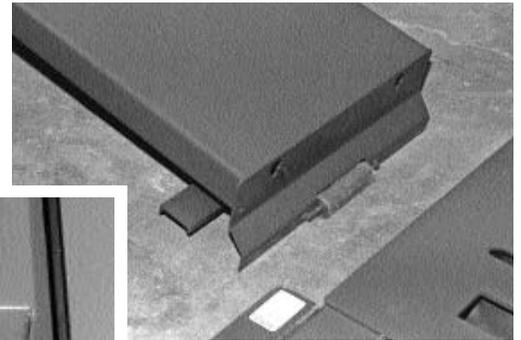

Figure 13
10. Position treadway extensions at ends of treadway and slide the extensions onto porta-frame structure. (See Figure 13 and its inset.)